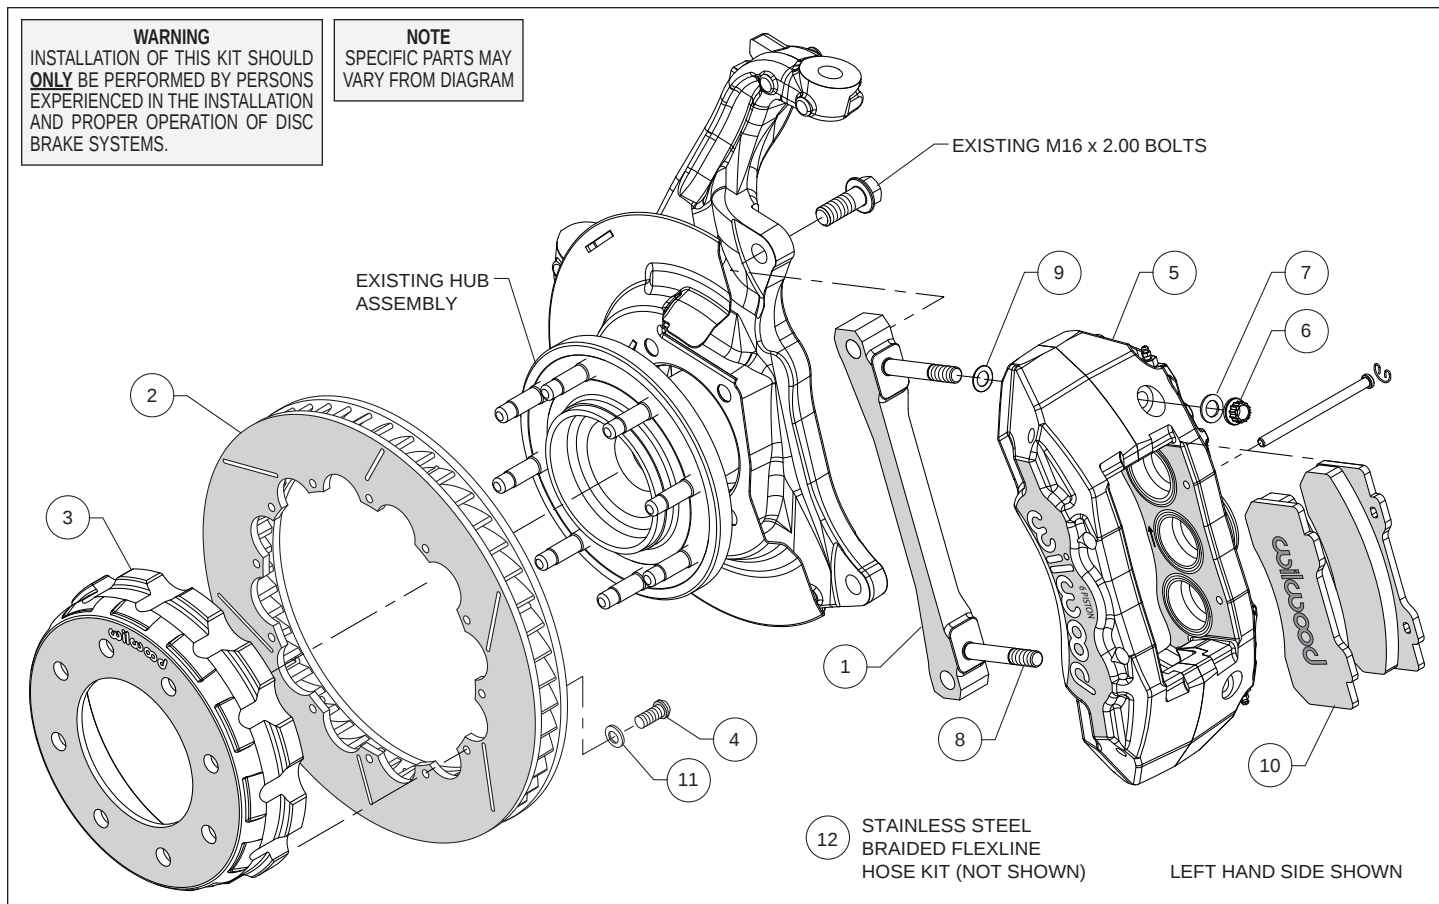

Figure 1. Typical Installation Configuration
Assembly Instructions (numbers in parenthesis refer to the parts list and Figure 1 on the preceding pages):
- The caliper mount bracket (1) should initially be installed with clean, dry threads on the mounting bolts. Orient the bracket as shown in Figure 1 and Photo 1, and install using saved OE bolts. Temporarily tighten the mounting bolts. **NOTE:** *The bracket must fit squarely against the mount bosses on the upright.* Inspect for interference from casting irregularities, machining ridges, burrs, etc. Remove the mounting bolts one at a time and apply red *Loctite*® 271 to the threads and torque to manufacturer's specifications.
- Orient the rotor (2) and the hat (3) as shown in Figure 1 and Photo 2. Attach rotor to hat using bolts (4) and washers (11). Using an alternating sequence, torque to 25 ft-lbs.
- NOTE:** *This kit contains distinct right and left hand calipers that must be mounted in a specific direction, as described below.* Lubricate the caliper mounting studs (8) with lightweight oil. Initially place one .032" thick shim (9) on each stud as shown in Figure 1 and Photo 3. Mount the caliper (5) onto the bracket (1) using lock nuts (6) and washers (7), Figure 1. Ensure that the caliper is mounted so that the largest pistons are at the rotor exit end of the caliper, in relation to the direction of rotor rotation. Temporarily tighten the lock nuts.